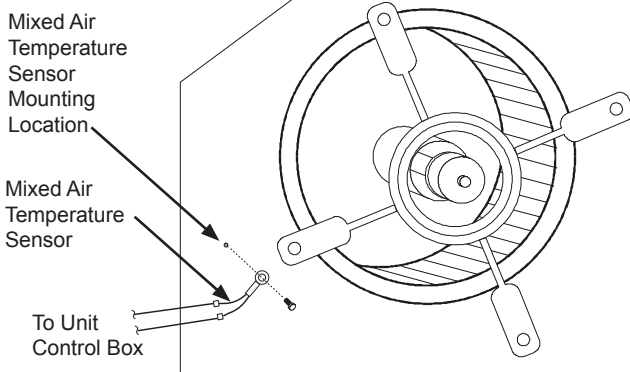

Fig. 10 - Mixed Air Sensor Placement
13. The mixed (or supply) air temperature sensor looks like an eyelet terminal with wires running to it. The sensor is located on the “crimp end” and is sealed from moisture. Locate the sensor in the economizer hardware bag. Mount the supply air temperature sensor (provided) to the lower left section of the indoor fan blower housing. (See Fig. 10.) Use the screw provided and use existing hole. Locate the orange and brown wires in wire bundle in the indoor fan section. Connect the orange and brown wires to the corresponding connections on the supply air temperature sensor. (See Fig. 8.)